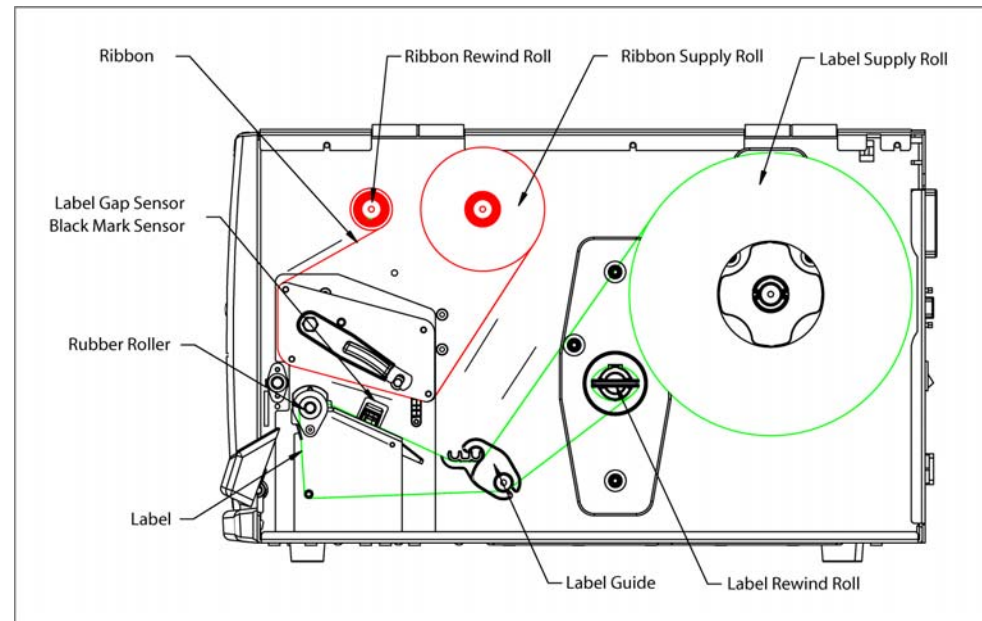

Figure 3. Paper path for peeler mode
- ※ To use **auto-peeling function**, please refer to the following steps : (as shown in Figure 3)